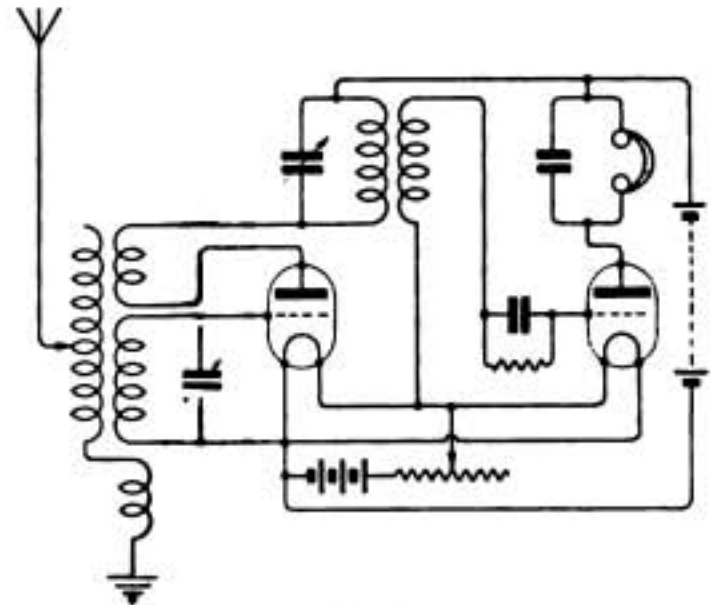

Fig. 3.
(1) See diagram, Fig. 3. More than one H.F. transformer would be necessary for as big a range as 150/5,000 metres. (2) Weak but readable signals should be obtained at 23 miles with a crystal set. Similar results might be obtained at 70 miles with a single valve set, but only if critical reaction were used. (3) Yes, if the height of the level aerial were about 30 ft.